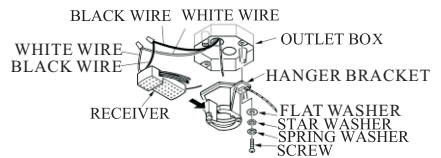

FIG.6
1. Securely attach the hanger bracket to the outlet box by washers and screws supplied. Connect white wire from ceiling to white wire from receiver with wire nut. Connect black wire from ceiling to black wire from receiver with wire nut. (see Fig.6)
2. Carefully lift the fan and seat the down rod ball assembly on the hanger bracket. Be sure the groove in the ball is lined up with tab on the hanger bracket. Do not pinch wires between the ball and down rod assembly and hanger bracket (see Fig.6)